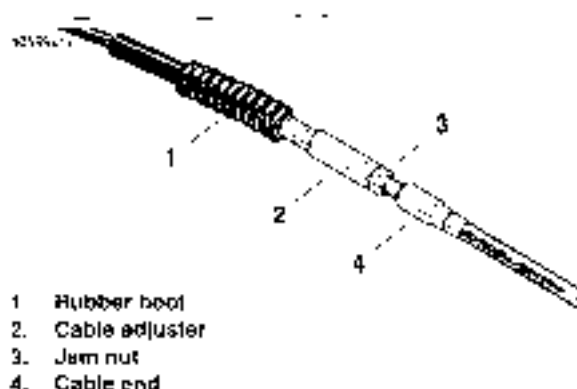
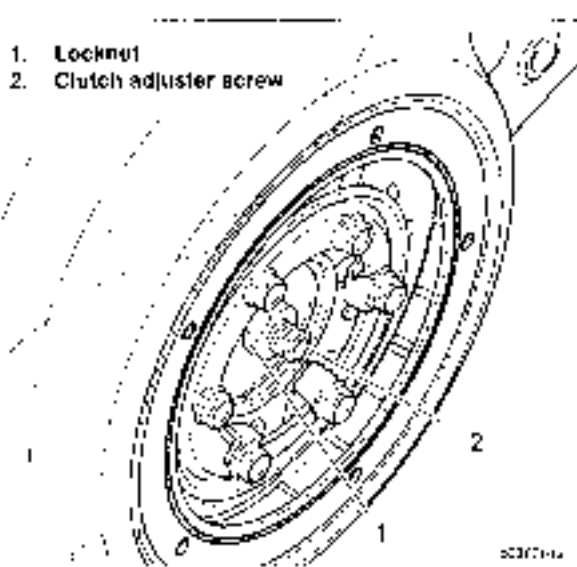

Figure 1-28. Clutch Cable Adjuster
Figure 1-29. Clutch Adjuster Screw
3. See Figure 1-28. Add freeplay to cable.
- a. Slide rubber boot (1) off cable adjuster.
- b. Holding cable adjuster (2) with 1/8 in. wrench, loosen jam nut (3) using a 9/16 in. wrench.
- c. Turn cable adjuster (2) until there is a large amount of free play at clutch hand lever.
4. See Figure 1-29. Loosen locknut (1) on clutch adjuster screw (2) to take up all free play, turn screw inward (clockwise) until fully seated. Activate the clutch lever to verify the balls are seated in the ramps.